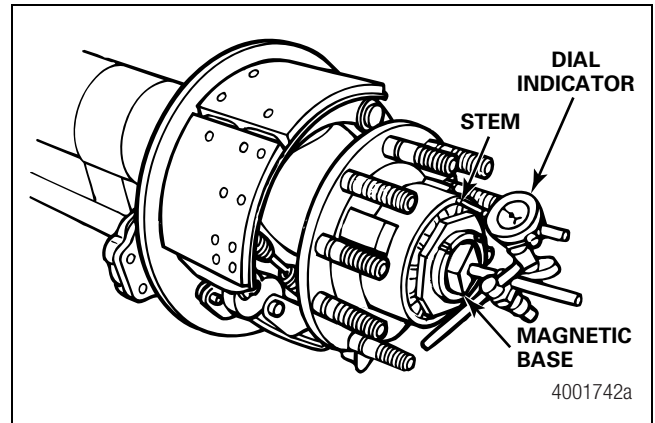

Figure 13.29
1. Attach the magnetic base of a dial indicator to the end of the axle spindle and touch the dial indicator stem against the hub. Figure 13.29.